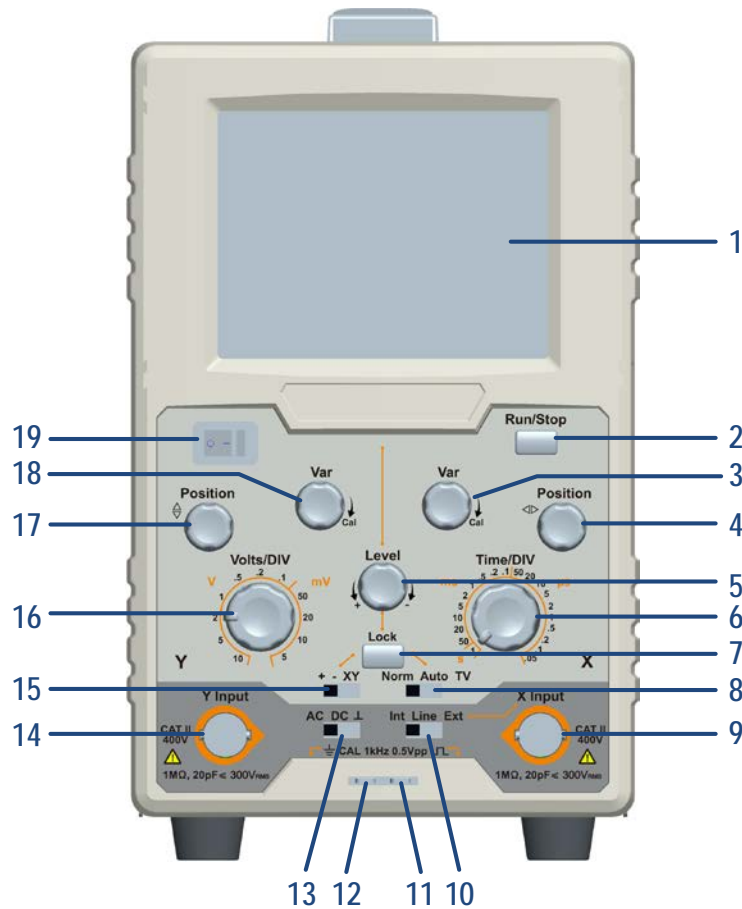

Figure 3-1 Front panel
| Item | No. in Figure 3-1 Front panel | Setting |
2. Connect the probe BNC connector to the Y Input terminal. Connect the probe tip to the calibration signal on the front panel (see 11 of Figure 3-1 Front panel). Connect the reference wire clamp to the ground wire connector of the calibration signal (see 12 of Figure 3-1 Front panel).